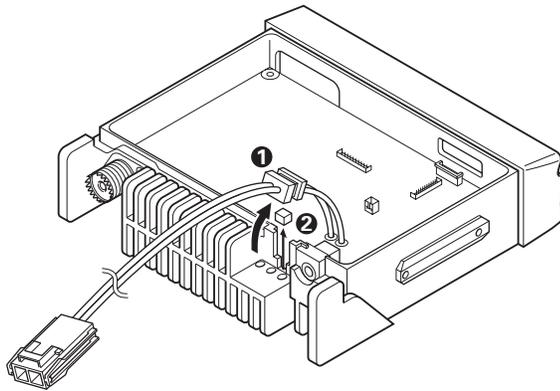

Fig. 3
1. Lift the DC cord bushing ( ❶ ) from the chassis. Peel the pad as shown in Figure 3 ( ❷ ).